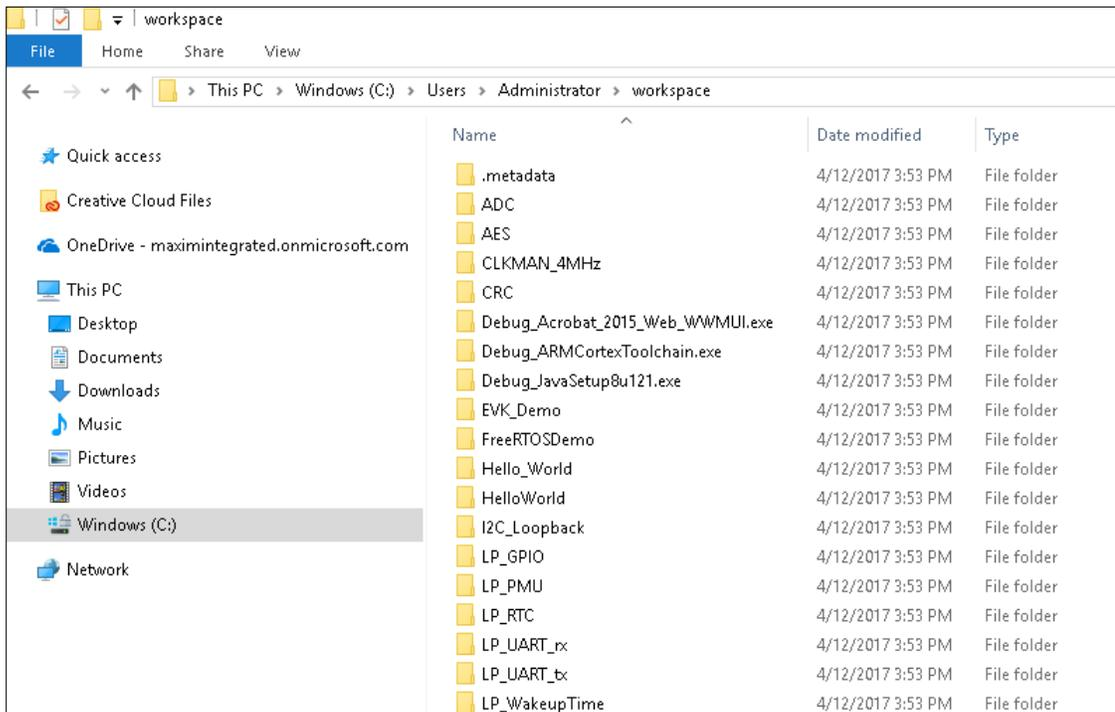

Figure 14. Imported Eclipse example projects.
1. Navigate to C:\Users*<user_name>*\workspace, as shown in **Figure 14**.